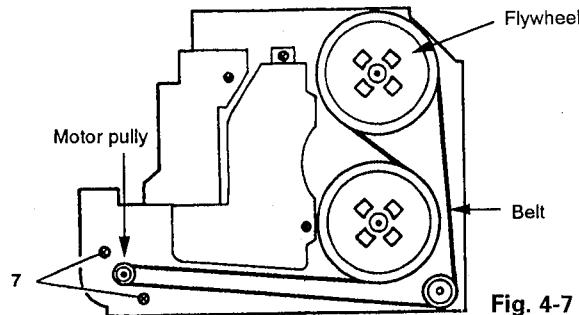

Fig. 4-7
### ■ Motor assembly and Belt (Fig. 4-7)
1. Place the cassette mechanism assembly upside down and hold the belt by a protrusion of the chassis to prevent it from getting soiled with oil, etc., and then remove two screws (7) retaining the motor assembly.
2. When re-engaging the belt for replacement, etc., make sure to engage it with the flywheels and the pulleys as shown in Fig. 4-7.